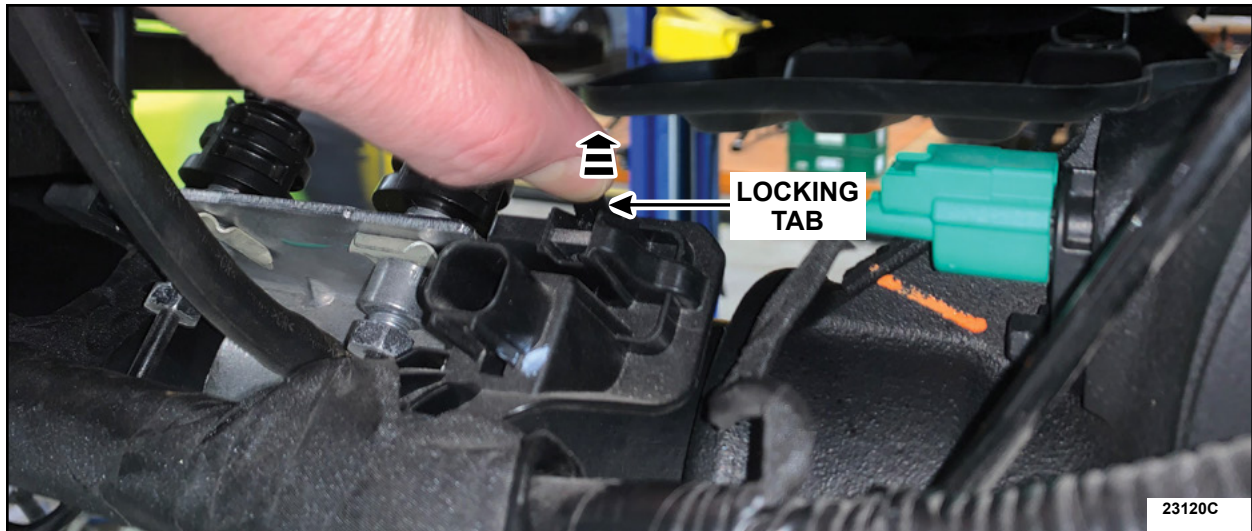

FIGURE 4
4. Lift and hold the locking tab up to disengage. See Figure 4.